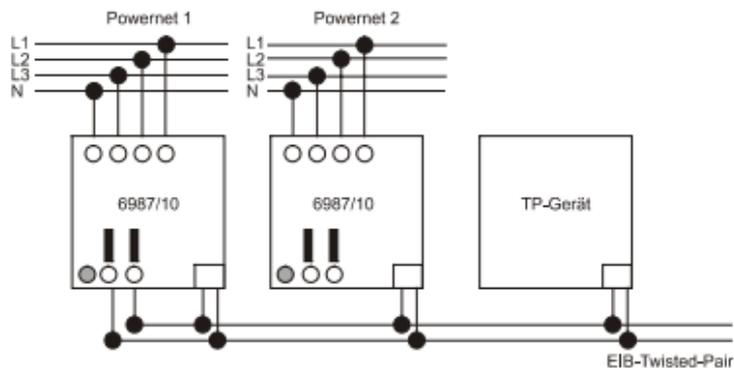

Fig. 3
2. Bus power supply through internal power supply: The system coupler has an internal source of power providing a throttled output voltage of  $24\text{ V} \pm 5\text{ V DC}$ . This power supply system can supply up to 5 additional devices (system couplers or EIB-TP devices) with power (e.g. to couple several Powernet areas). For internal power supply of the system coupler the output voltage has to be connected to the bus connecting terminal (see Fig. 3).